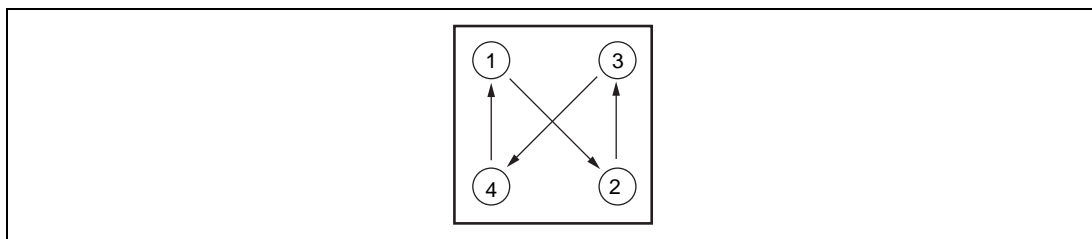

Figure 3.3 Sequence of Screw Tightening
- Screw the cable head to the socket with the screws provided. Progressively tighten the screws in the sequence shown in figure 3.3 until all are 'finger tight'.